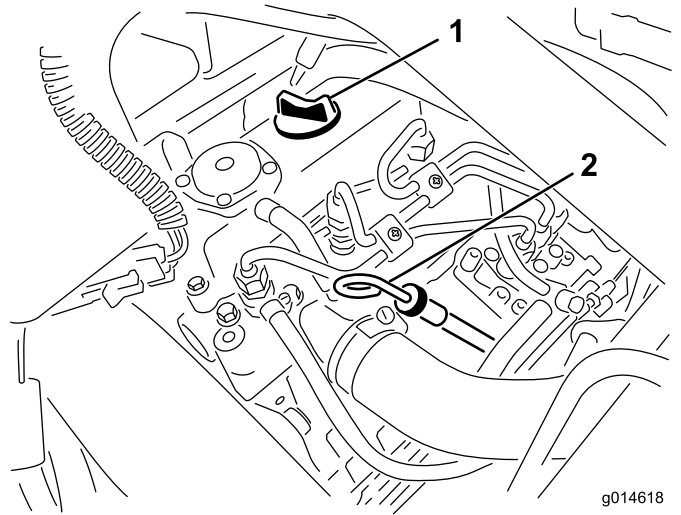

Figure 25
2. Remove the dipstick and wipe it with a clean rag (Figure 25). Push the dipstick into the tube and make sure it is seated fully. Remove the dipstick from the tube and check the level of oil. If the oil level is low, remove the filler cap from the valve cover and **slowly** add enough oil to raise the level to the Full mark on the dipstick. Add the oil slowly and check the level often during this process. **Do not overfill.**